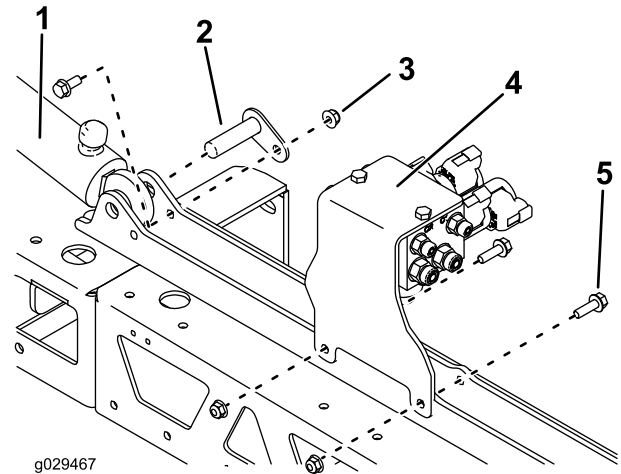

Figure 14
2. Install the hydraulic cylinders and valve mount using the original hardware (Figure 14).